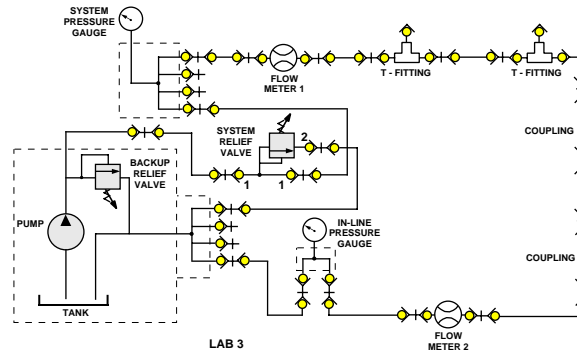

Fig. 2.1.15
1. Construct the circuit in Figure 2.1.15.